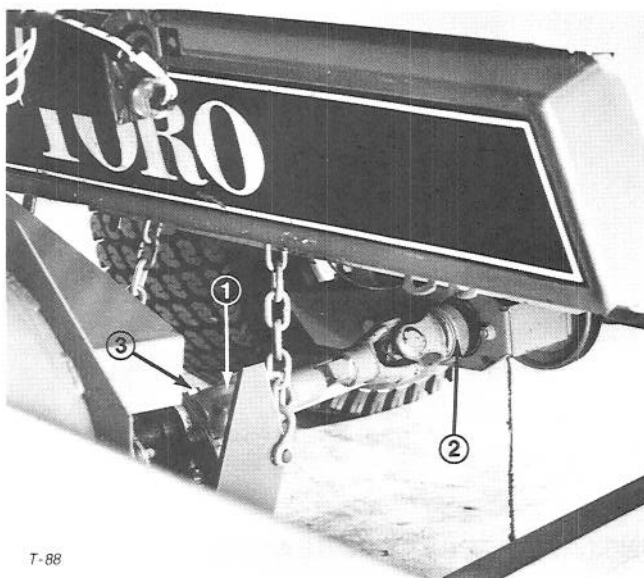

Figure 15
1. Install universal joint end of shaft onto snowthrower output shaft, pull back on quick disconnect coupler collar on opposite end and install on splined end of traction unit jackshaft (Fig. 15).
2. Align holes in universal joint with snowthrower input shaft and install 5/16 x 2 inch capscrew and flange nut (Fig. 15).